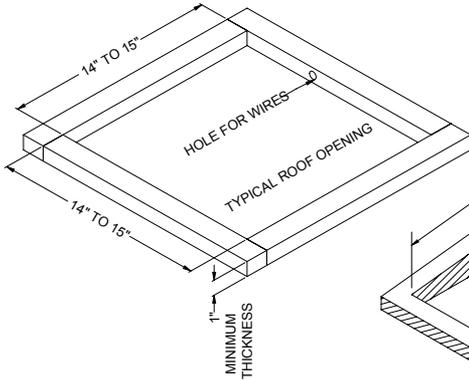

FIGURE 1
- enlarged. If the opening exceeds 15" x 15", a mounting frame must be field fabricated to reduce the opening size (See Figure 1).
2. If a roof vent opening is not used, a new opening (See Figure 1) will have to be cut into the vehicle roof. A matching opening will also have to be cut into the interior vehicle ceiling. Be careful when cutting the ceiling opening. If the ceiling opening is carpeted, snagging could occur. After the opening in the roof and interior ceiling are the correct size, a framed support structure must be provided between exterior roof top and interior ceiling. The reinforced framed structure must provide the following guidelines:
Airxcel's 45000 series requires that the spacing from the vehicle roof top to the interior ceiling be no less than 1". A typical support frame is shown in Figure 1. The frame must provide an opening to allow passage for the power supply wiring. Route the supply wiring through the frame at the same time the support frame is being installed.